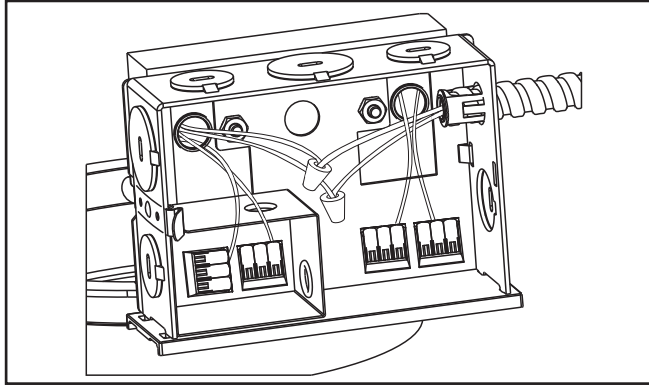

Figure 41
2. Remove junction box cover (Figure 41).